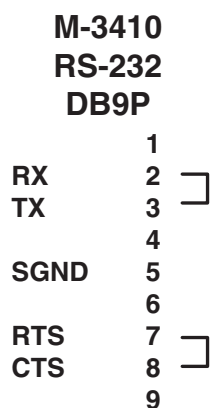

Figure 5-3 RS-232 Loopback Plug
- An RS-232 Loopback Plug (See Figure 5-3, below) is connected to the COM1 port.
- An RS-232 Loopback Plug (See Figure 5-3, COM1/COM2 Loopback Plug) is connected to the COM2 port.